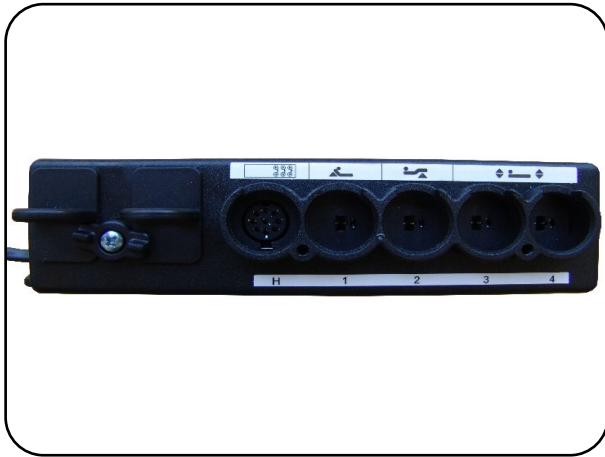

Fig. 6.3.05 – Controller
5. Connect the manual control unit and the drives as indicated by the pictograms on the controller (Fig. 6.3.05).